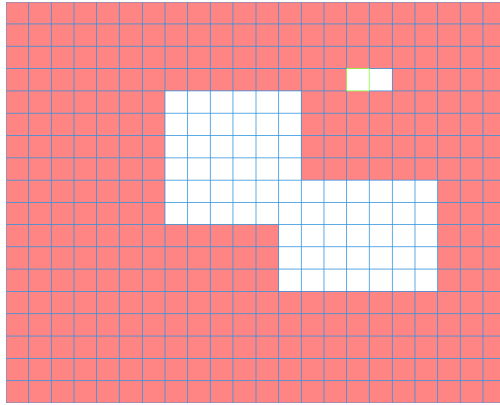

Figure 5-51
- Region: Click select button, the interface is shown as in Figure 5-51. Here you can set motion detection zone. There are 396(PAL)/330(NTSC) small zones. The green zone is current cursor position. Grey zone is the motion detection zone. Black zone is the disarmed zone. You can click Fn button to switch between the arm mode and disarm mode. In arm mode, you can click the direction buttons to move the green rectangle to set the motion detection zone. After you completed the setup, please click ENTER button to exit current setup. Do remember click save button to save current setup. If you click ESC button to exit the region setup interface system will not save your zone setup.
In Figure 5-51, you can left click mouse and then drag it to set a region for motion detection. Click Fn to switch between arm/withdraw motion detection. After setting, click enter button to exit.